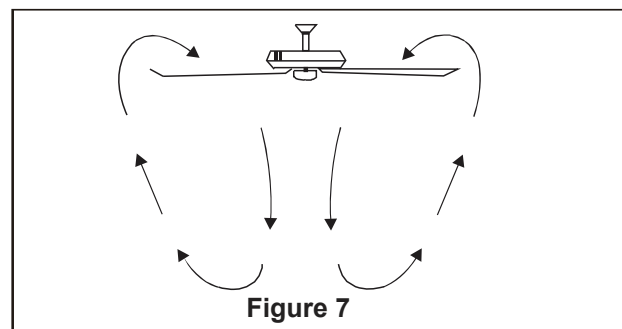

Figure 7
- ### 7. Warm weather - (Forward) A downward air flow creates a cooling effect as shown in . (Figure 7) This allows you to set your air conditioner on a higher setting without affecting your comfort.